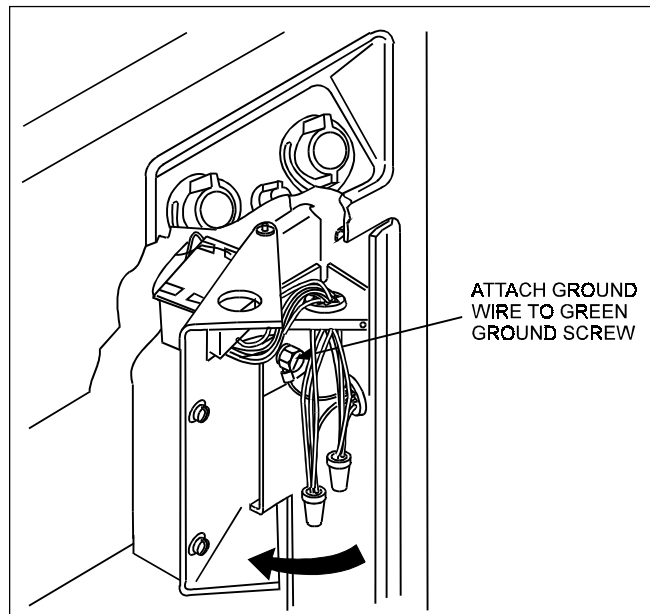

Figure 8. Field Wiring Connections (LD).
2. Connect the wires from the power source to the leads on the right side of the heater in the space behind the ignition control (see Figure 8). Be sure to follow the wiring diagram on page 7 to configure the transformer for the correct input voltage.